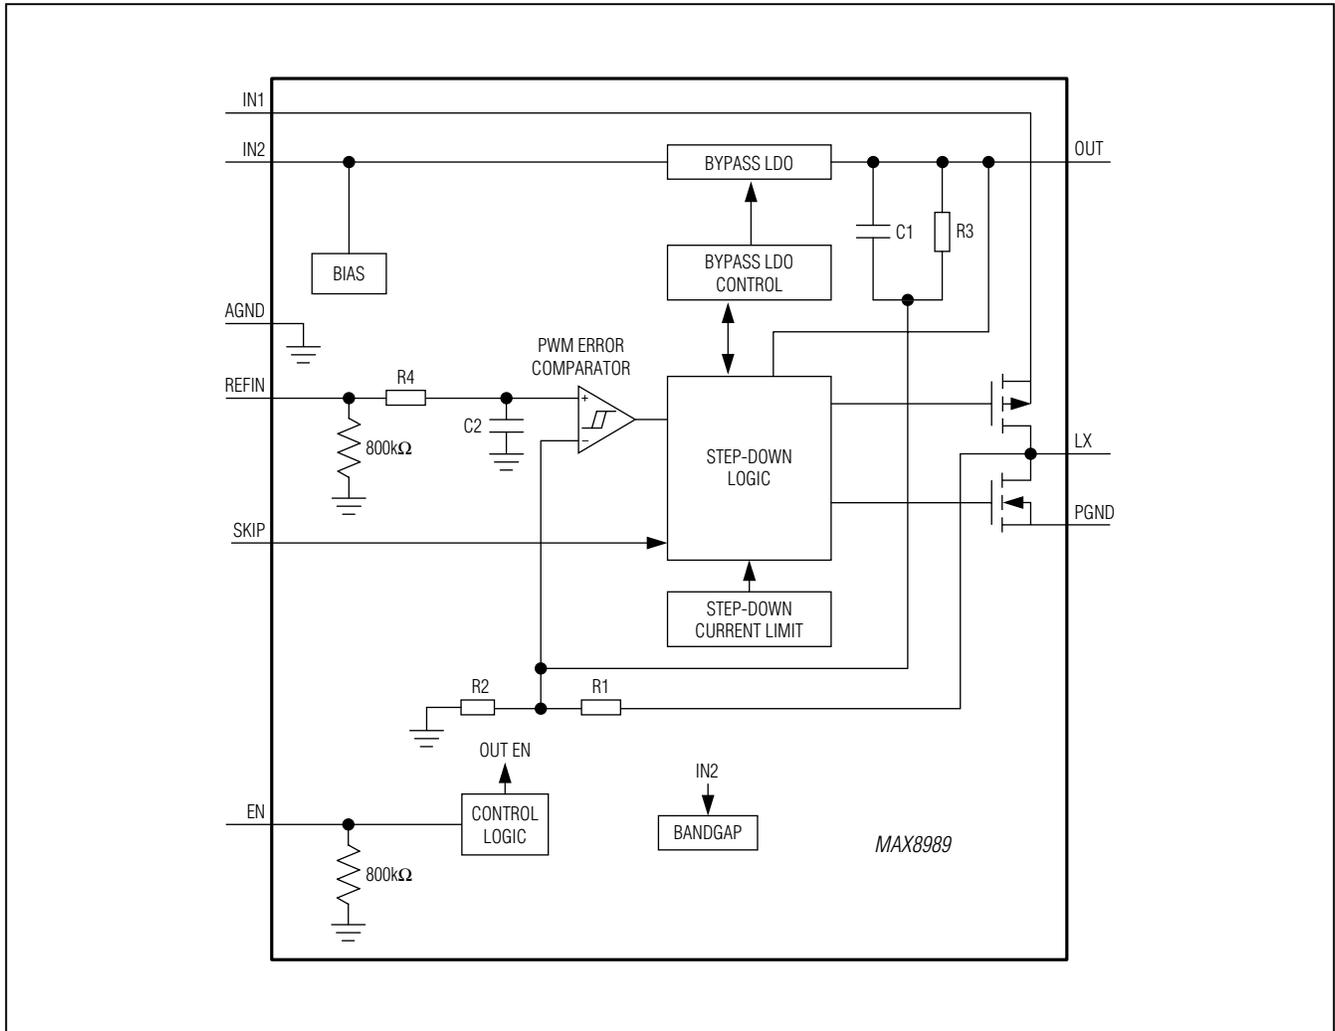

Figure 1. Functional Diagram
Hysteretic control is sometimes referred to as ripple control, since voltage ripple is used to control when the high-side and low-side switches are turned on and off. To ensure stability with low ESR ceramic output capacitors, the IC combines ripple from the output with the ramp signal generated by the switching node (LX). This is seen in Figure 1 with resistor R1 and capacitor C1 providing the combined ripple signal. Injecting ramp voltage from the switching node also improves line regulation because the slope of the ramp adjusts with changes in input voltage.
The IC step-down converter utilizes a unique feedback network. By taking DC feedback from the LX node through R1 of Figure 1, the usual phase lag due to the output capacitor is removed, making the loop exceedingly stable and allowing the use of very small ceramic output capacitors. To improve the load regulation, resistor R3 is included in the feedback. This configuration yields load regulation equal to half of the inductor's series resistance multiplied by the load current. This voltage-positioning load regulation greatly reduces overshoot during load transients and when changing the output voltage from one level to another. However, when calculating the required VREFIN voltage, the load regulation should be considered. Because inductor resistance (RL) is typically well specified and the typical PA is a resistive load, the VREFIN to VOUT gain is slightly less than 2.0V/V. The output voltage is approximately: